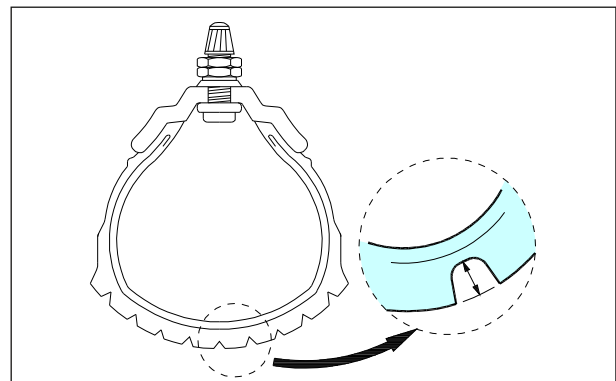

Fig. 5.5
- Using the vehicle with excessively worn tyres will decrease riding stability and consequently invite a dangerous situation due to loss of control. It is highly recommended to replace the tyre with a new one when the groove depth of tyre from tread surface reaches the following specifications: (Fig. 5.5)